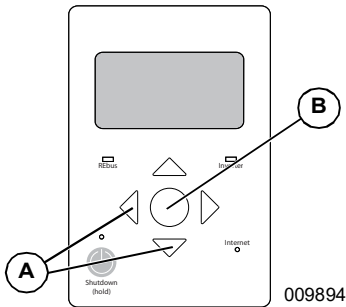

Figure 6-1. Inverter Control Panel
See **Figure 6-1**. To access the device page for each PV Link, use left or right arrow buttons (A) on the inverter control panel to scroll through the pages. When on a PV Link device page, press center button (B) to access the main menu and enable or disable the device or to modify settings. The disabled/enabled state does not affect communication with the inverter.